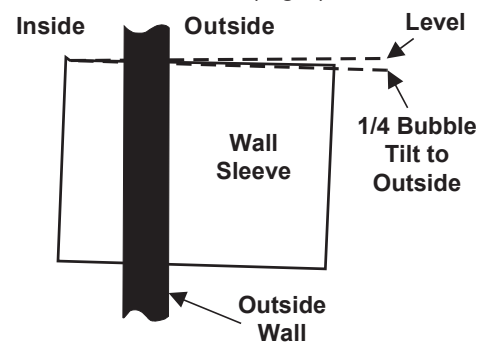

Fig 5 Proper Sleeve Tilt
- A slight downward pitch from the indoor side to the out-door side as shown below (Fig 5).